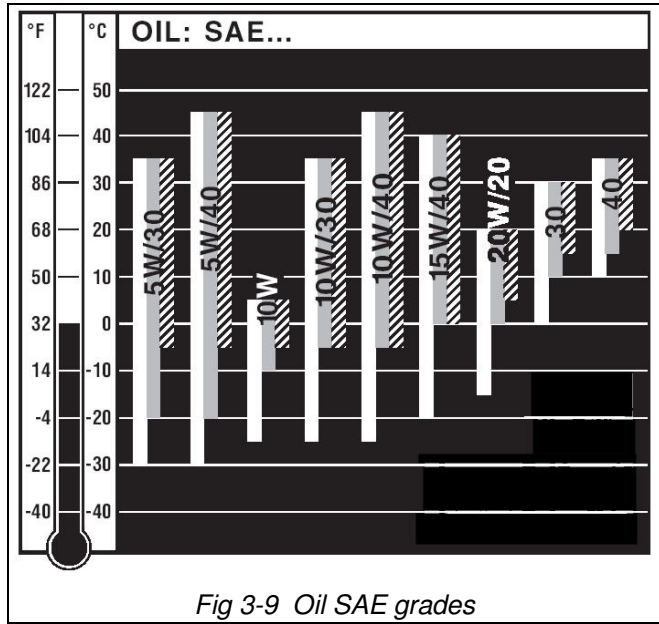

Fig 3-9 Oil SAE grades
6. If necessary, top up the oil (see Fig 3-9). Do not overfill.
8. Refill the sump with oil of the correct grade for the conditions (*Fig 3-9*) to the correct level, as indicated on the dipstick.